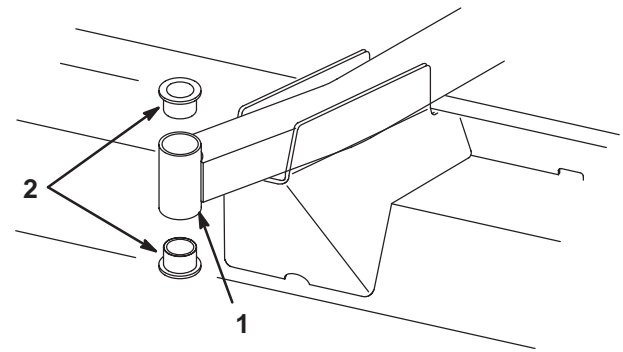

Figure 33
4. Insert a pin punch into the top or bottom of the mounting tube and drive the bushing out of the tube. Also drive the other bushing out of the tube (Fig. 33). Clean the inside of the tubes to remove dirt.